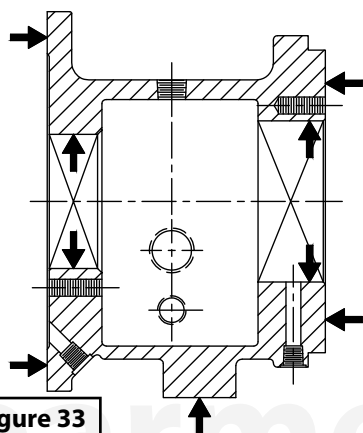

Figure 33
- Y Check all lubrication passages and make sure they are not clogged (see Figure 33).